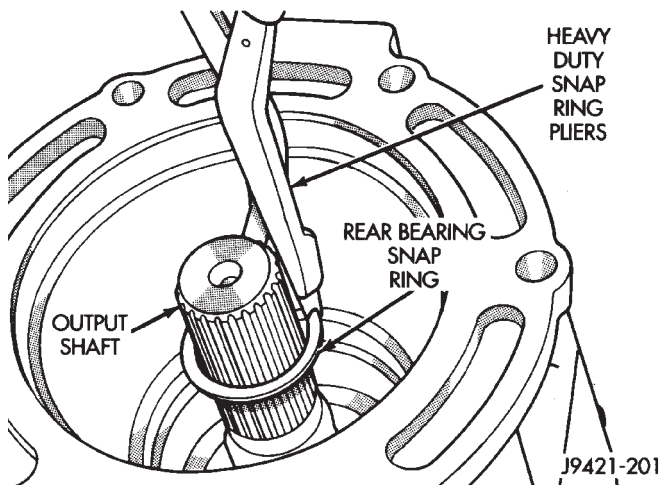

Fig. 35 Rear Bearing Snap Ring Removal—4WD
(2) Remove rear bearing snap ring from output shaft with heavy duty snap ring pliers (Fig. 35).